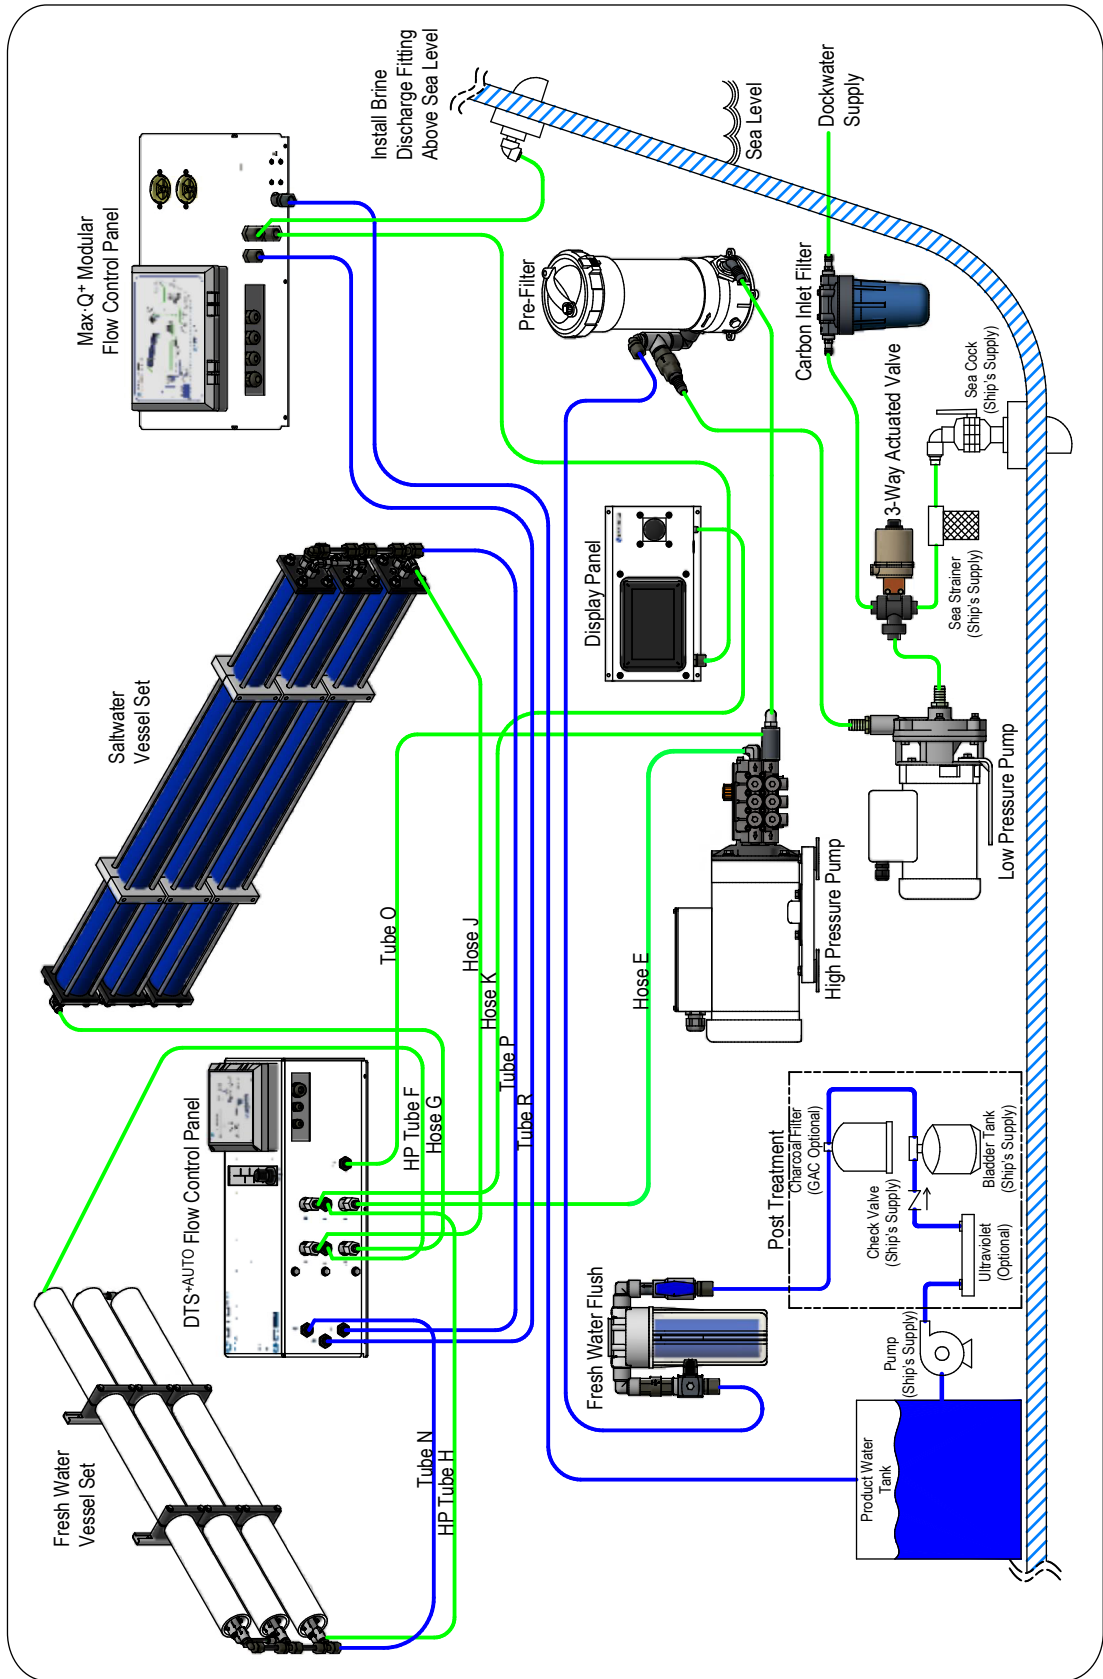

Figure 30: Max•Q+ Modular 1,850 GPD with DTS+AUTO
- "Figure 30: Max•Q+ Modular 1,850 GPD with DTS+AUTO" on page 52